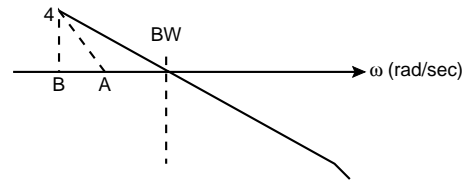
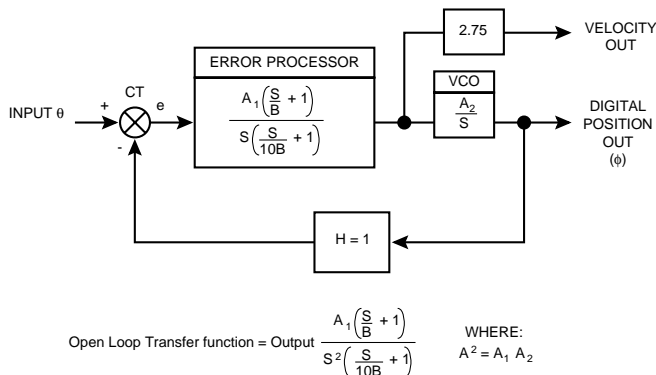

FIGURE 8. OPEN LOOP BODE PLOT
FIGURE 7. CONTROL LOOP BLOCK DIAGRAM
A Type II servo loop ($K_v = \infty$) and very high acceleration constants give the SDC-14560 superior dynamic performance, as listed in TABLE 2. If the power supply voltages are not the ± 15 V DC nominal values, the specified input rates will increase or decrease in proportion to the fractional change in voltage. A Control Loop Block Diagram is shown in FIGURE 7, and an Open Loop Bode Plot is shown in FIGURE 8. The values of the transfer function coefficients are shown in TABLE 3.
The Velocity output (VEL) from the SDC-14560 is a DC voltage proportional to angular velocity $d\theta/dt = d\phi/dt$. The velocity input is the second integrator, as shown in FIGURE 7. Its linearity is dependent solely on the linearity of the voltage controlled oscillator (VCO). Due to the highly linearized VEL output, the electro-mechanical tachometer can now be eliminated from motion control systems. Bandwidth (BW) and the acceleration constant (K_a) can be determined from the formulas shown: